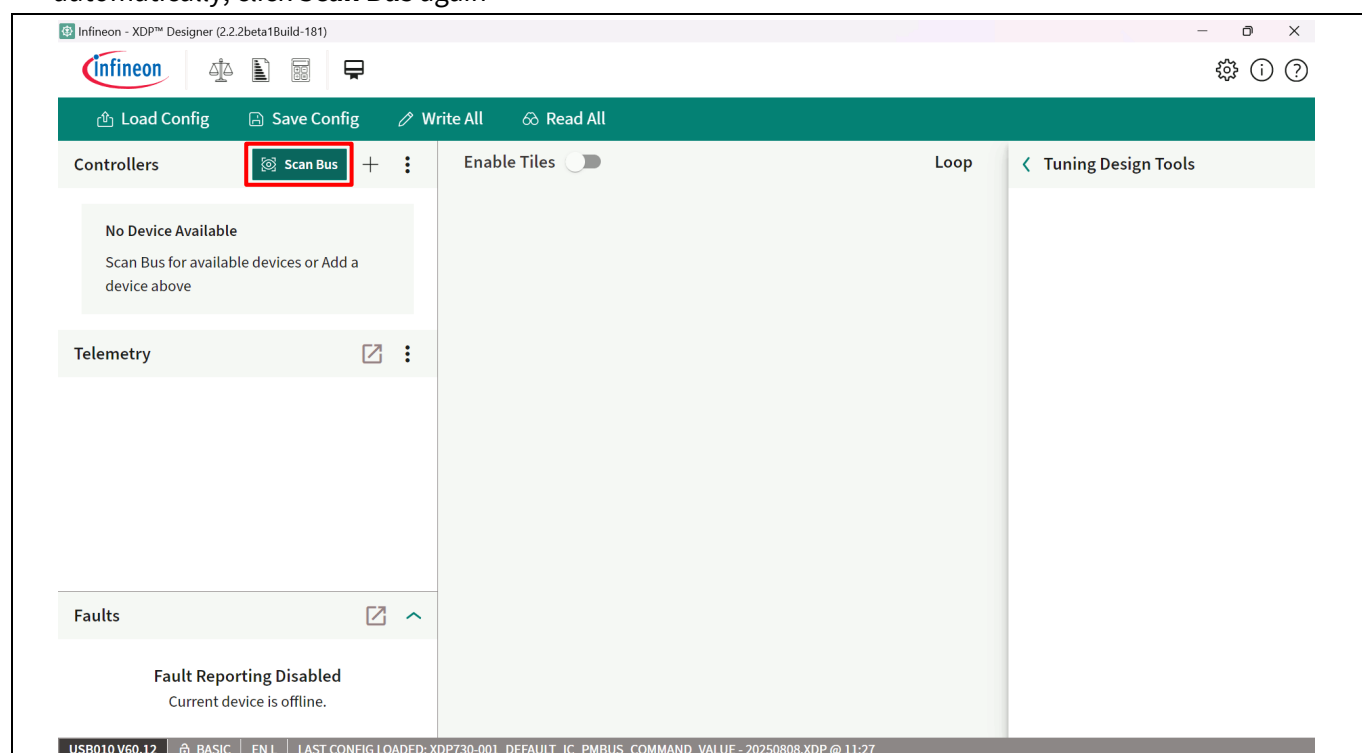

Figure 15 XDP730-001 detection
1. Click **Scan Bus**, as shown in Figure 15